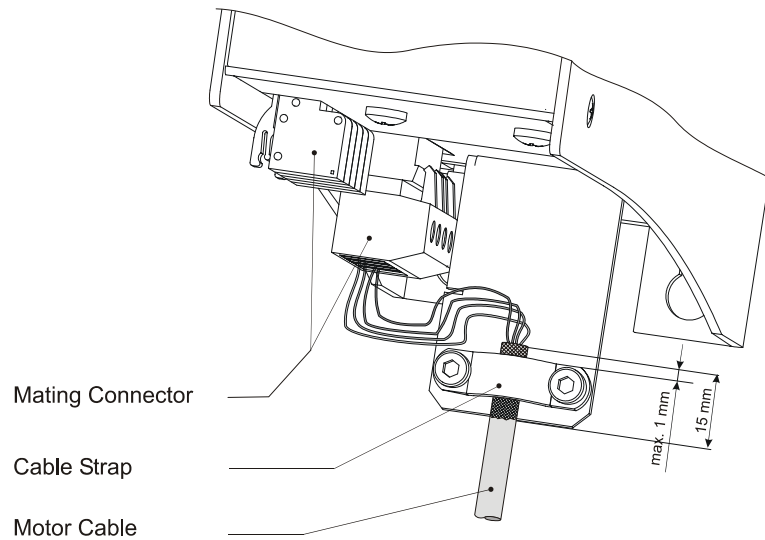

Fig. 3: EMC-compatible connection of motor cables
- Connect the motor leads according to Fig. 3, page 20,